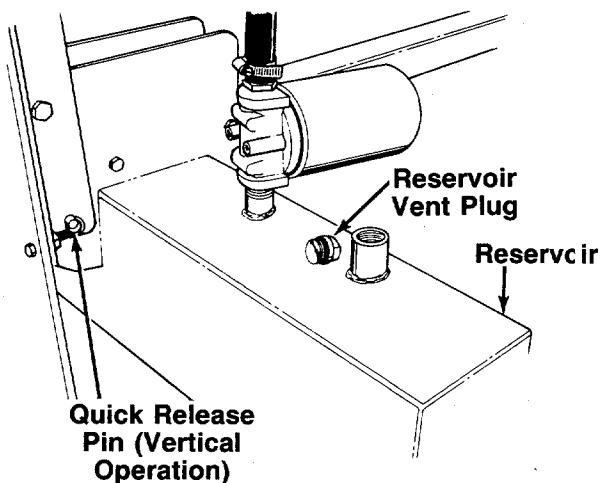

FIGURE 11.
1. Place log splitter on a firm, level surface. For vertical operation, remove the quick release pin from the latch bracket. Place the beam in the vertical position. Place the quick release pin through the holes in the beam mounting plates and the brackets on the reservoir tank. See figure 11.
- a. Remove reservoir vent plug. See figure 11. Using Dexron II automatic transmission fluid, fill reservoir to the top. Replace vent plug securely.